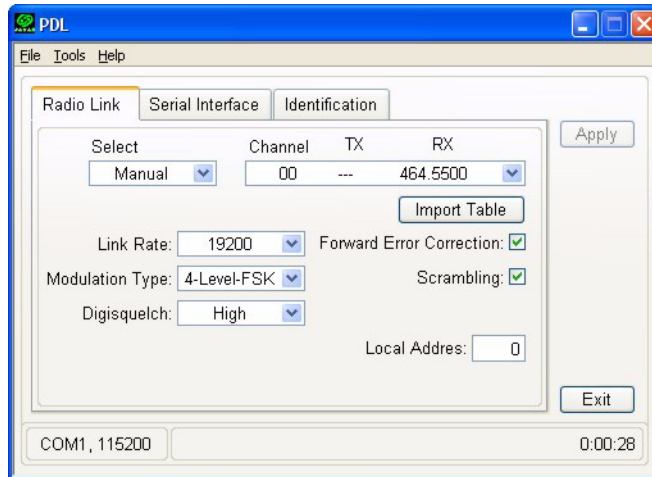

Figure 2-31. PDL Radio Link Tab
6. Click the **Radio Link** tab and set the following parameters depending on the link rate selected (Table 2-4 and Figure 2-31):